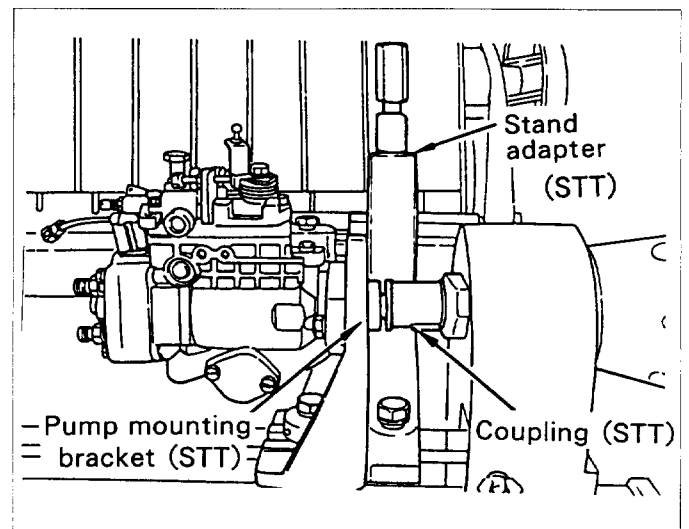

Fig.15-2 Mounting the pump on the test stand
- (2) Install the pump on the proper pump mounting bracket for the test stand. (See Fig.15-2)
- (3) Position the adjusting lever protractor mounting stand. (See Fig.15-2)
- (4) Mount the drive coupling, with woodruff key, washer, and round nut, to the pump and connect to the test stand drive. (See Fig.15-2)